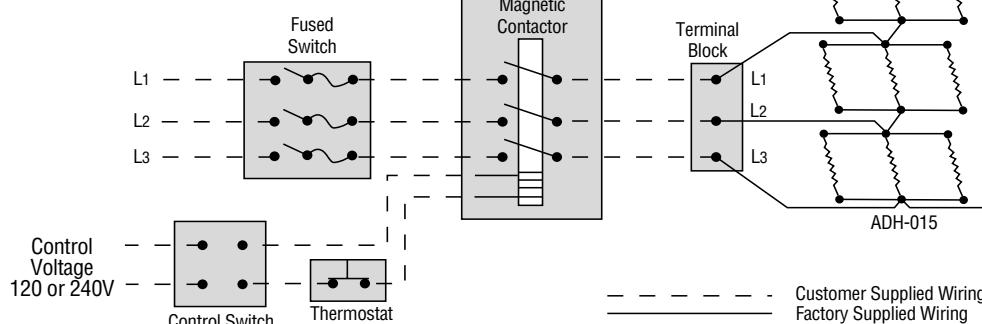

Figure 8
5. Below is an example of a standard ADH-015, 480V 3Ø 15 kW, wired with recommended back-up controls. (Figure 8)